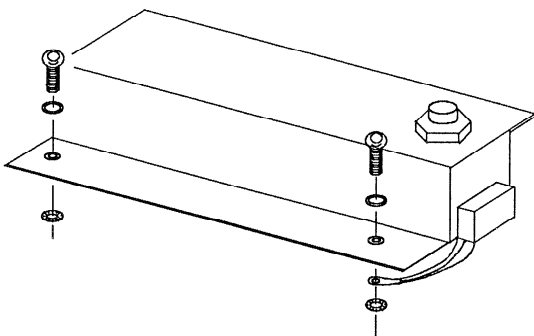

Fig. 3a Connection to varnished plate
- Install the socket holder as shown in Fig. 3a or 3b.